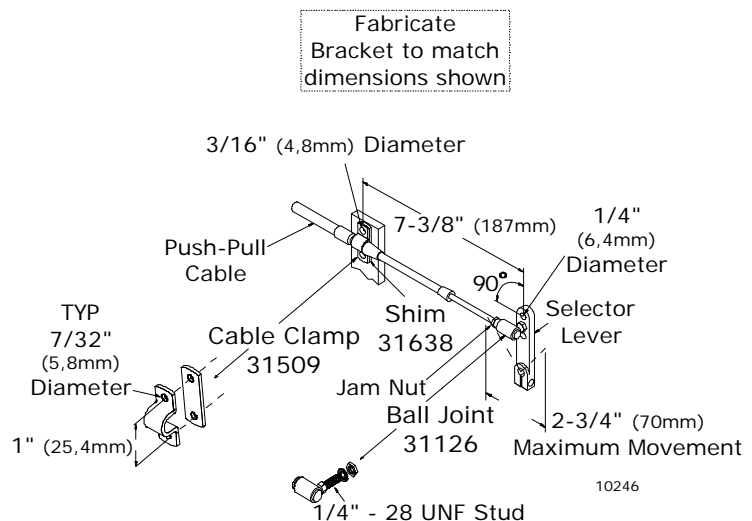

Figure 7 - Universal Mounting
- A) Verify installation of push-pull cable brackets on the engine governor and Jet Pump. If the brackets are not installed, fabricate brackets as shown in Figure 7